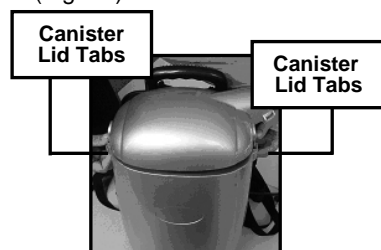

Fig. 22
- To remove the **HEPA** dust bag, press on the canister lid tabs on each side of the unit and lift canister lid. (Fig. 22)
- Pull the tab on the **HEPA** dust bag holder out slightly and flip upwards. (Fig. 22)